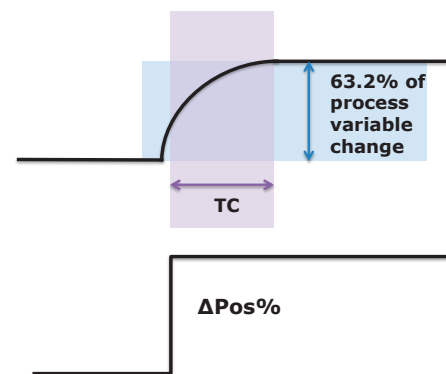

Figure 3: Lag (System Time Constant)
In a self-regulating process, it takes time to go from one steady state condition to another after a valve position change. This lag is measured by its time constant (TC), which is the time taken for the process variable to reach 63.2% of the new steady state (see Figure 3).